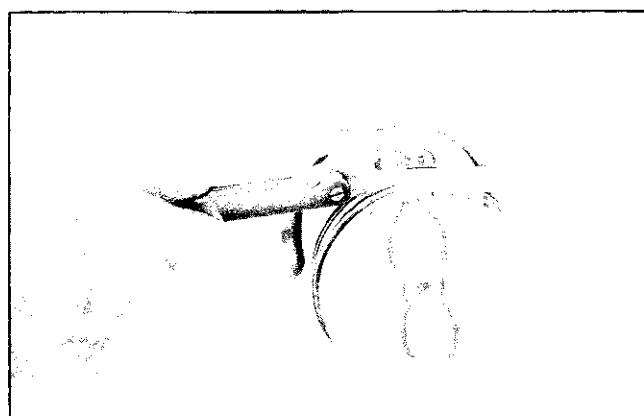

Fig. 6-124 Measuring Side Clearance of Ring in Groove
5. Measure side clearance of rings in ring groove (Fig. 6-124) as each ring is installed. Clearance with new pistons and rings should be $.0015"$ -. $.0050"$.